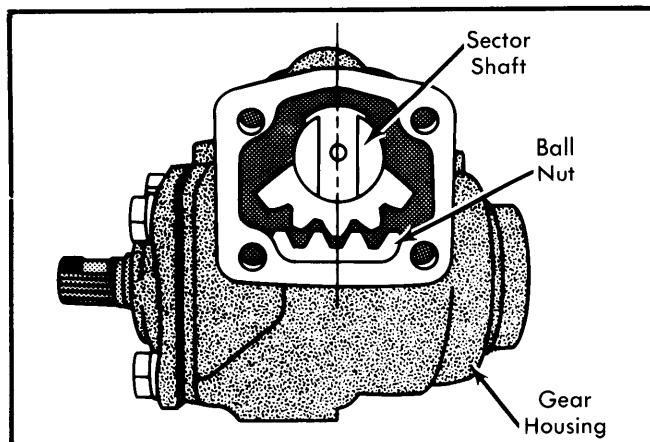

Fig. 4 Aligning Sector Shaft to Ball Nut
3) Check clearance between sector shaft adjusting screw and sector shaft. Insert shim so that final clearance will be .004" (.1 mm) or less. Insert sector shaft into gear housing, aligning center of sector shaft with ball nut. See Fig. 4. Insert adjusting screw and shim in sector shaft. Place side cover and gasket over adjusting screw and turn adjusting screw until cover is in place, then install cover bolts.